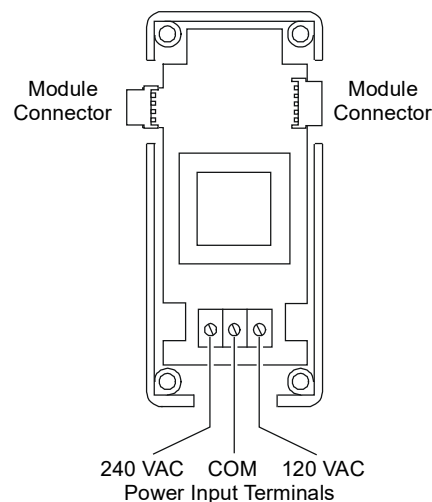

Figure 3: Interior of the Y350R Power Module
2. Connect input wiring to the Y350R power module. Strip approximately 3/8 inch from the wire insulation, insert the wire under each terminal screw, and tighten. (See Figure 3.)